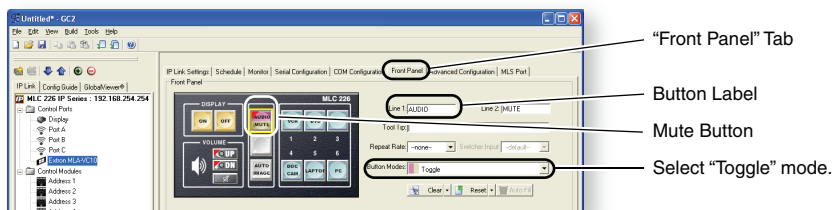

Figure 3-5 — Configuring the mute button (steps 1-3)
1. Select the **Front Panel** tab and select an available button (see figure 3-5).